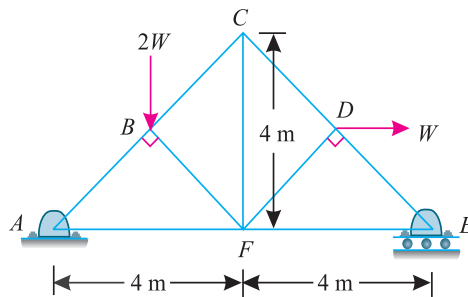

Fig. 12.28.
**Example 12.13.** A truss of 8 m span and 4 m height is loaded as shown in Fig 12.28. Find the reactions at A and E.